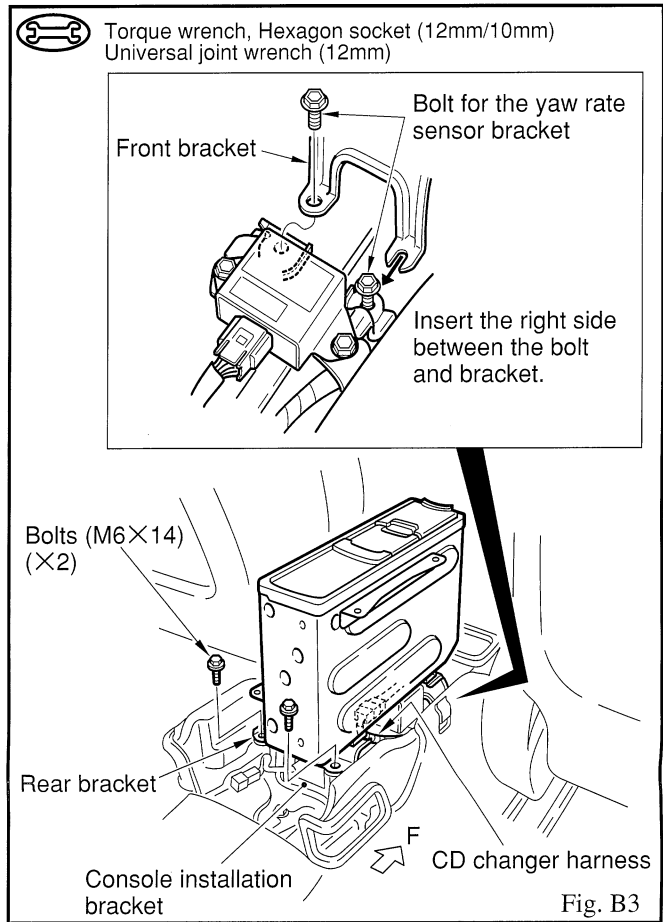

Fig. B3
- ii. Connect the CD changer harness. (Fig. B3)
- iii. Secure the front and yaw rate sensor brackets together. (Fig. B3)
- iv. Attach the rear bracket, on the console installation bracket, with bolts. (Fig. B3)